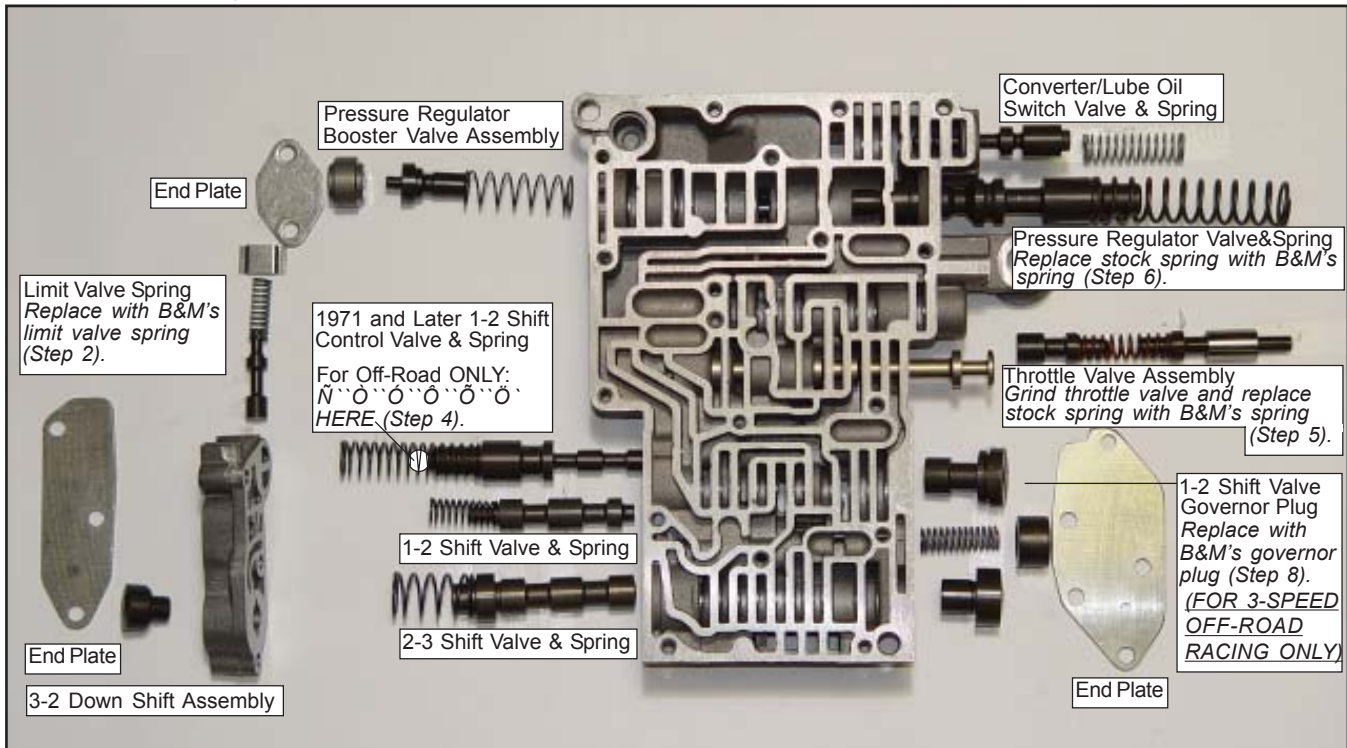
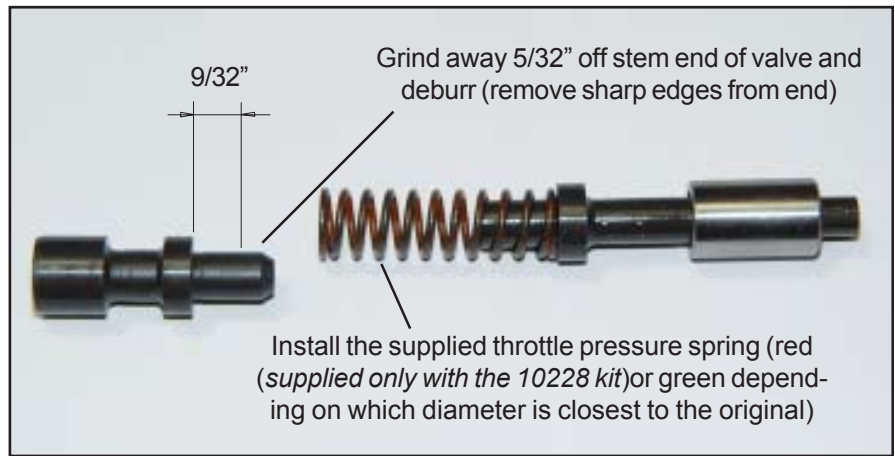

Figure 2
Figure 4
STEP 2. Remove and discard the filter. Carefully disassemble the valve body and lay out all the springs and valves as removed on a clean rag or paper towel (See Figure 2). Thoroughly clean each part (brake cleaner works well). Replace the stock limit valve spring with the supplied B&M limit valve spring (See Figure 2).
STEP 4. Referring to figure 2, reinstall the 2-3 shift valve and spring and the 1-2 shift valve and spring. Reinstall the 1-2 shift control valve and spring. For 3-SPEED OFF-ROAD RACING APPLICATIONS ONLY install the supplied B&M 1/4" check ball inside the spring on top of the 1-2 shift control valve. DO NOT install the 1/4" check ball in Heavy Duty and Street applications. Make sure all the valves and springs move freely, then install the down shift assembly and end plate. Reinstall the booster assembly (some early models do
STEP 5. Modify the throttle valve as indicated in figure 4. Then install the supplied B&M Throttle Pressure Spring (red (supplied only with the 10228 kit) or green). Use the spring that is the closest diameter to the original spring. Then install the modified throttle valve assembly into the valve body (See Figure 2).
STEP 6. Reinstall the Pressure Regulator Valve using the supplied B&M Pressure Regulator Spring (See Figure 2).
ernor plug with B&M's governor plug (See Figure 2).